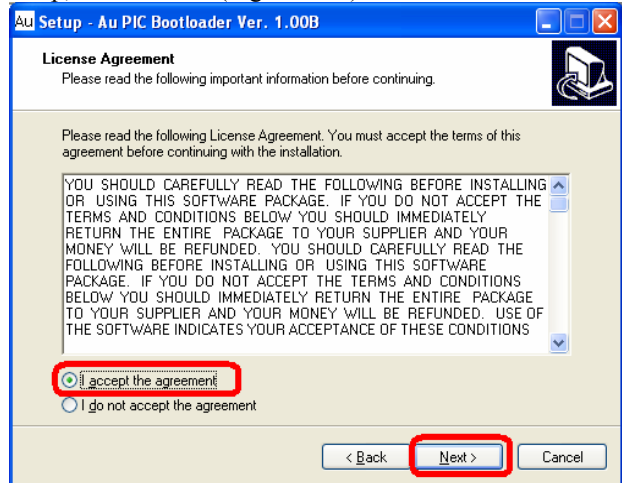

Figure C-3
3. “License Agreement” window show up, read the license agreement and select “I accept the agreement”, then click “Next” to continue (Figure C-3).